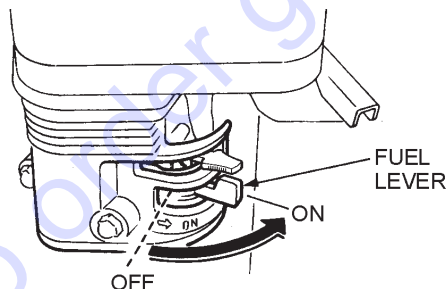

Figure 8. Engine Fuel Valve Lever
1. Place the engine ***fuel valve lever*** (Figure 8) to the "**ON**" position.